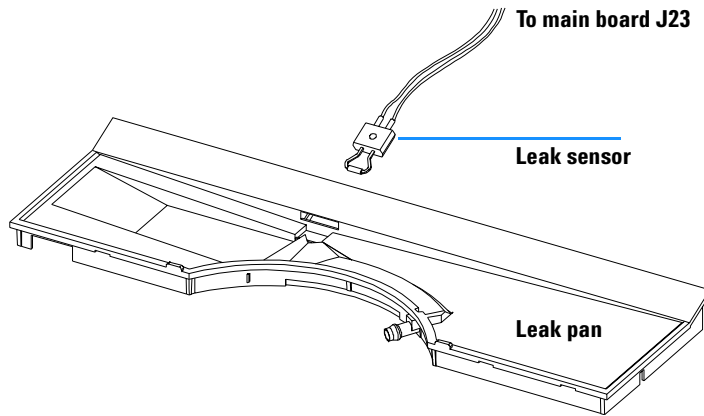

Figure 23 Exchanging the Leak Sensor
- 8 Place the leak sensor into the leak pan, see Figure 23 and clip the pan back into its position.